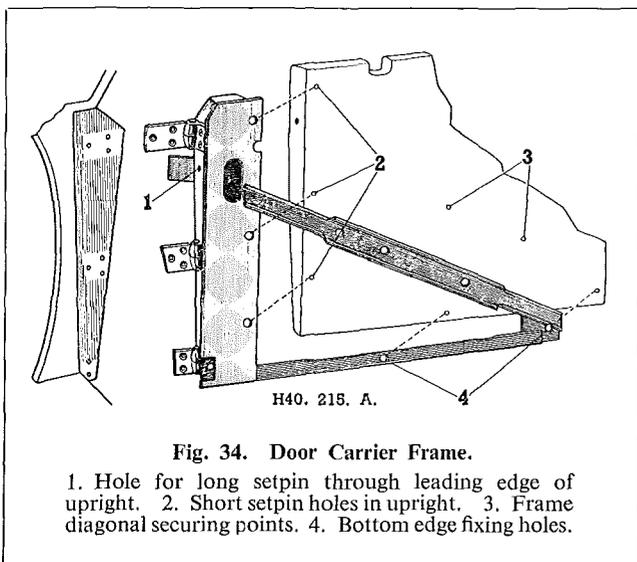

Fig. 34. Door Carrier Frame.
**Door Removal :** There is no need to disturb the door hinges to remove the door. The door, as a precaution against mishandling and extraordinary road conditions, is secured to a carrier frame, see Fig. 34, the frame being hinged to the body.